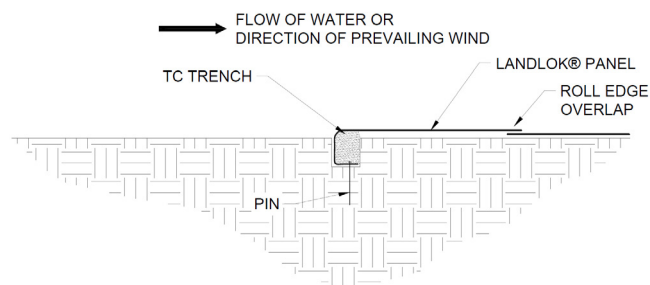

Figure 20: Terminal Channel (TC) Trench Complete
17. Fold the **PROPEX** Landlok TRM panel over the top of the compacted TC trench (Figure 20) ensuring a minimum 3 in (75 mm) overlap and place each panel end into the respective COS trenches.